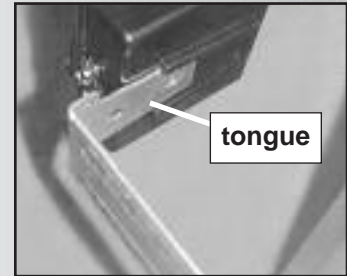

Fig. 3-3
- Slide source/sensor onto tongue of bracket until it clicks into place **Fig. 3-3.**